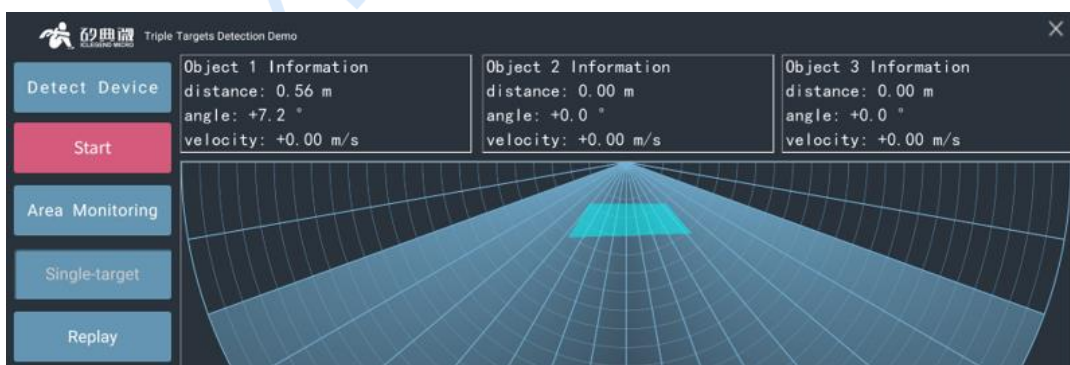
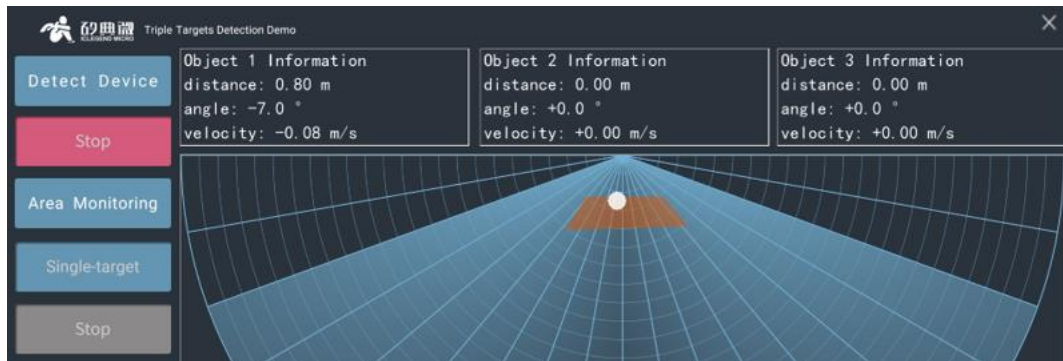
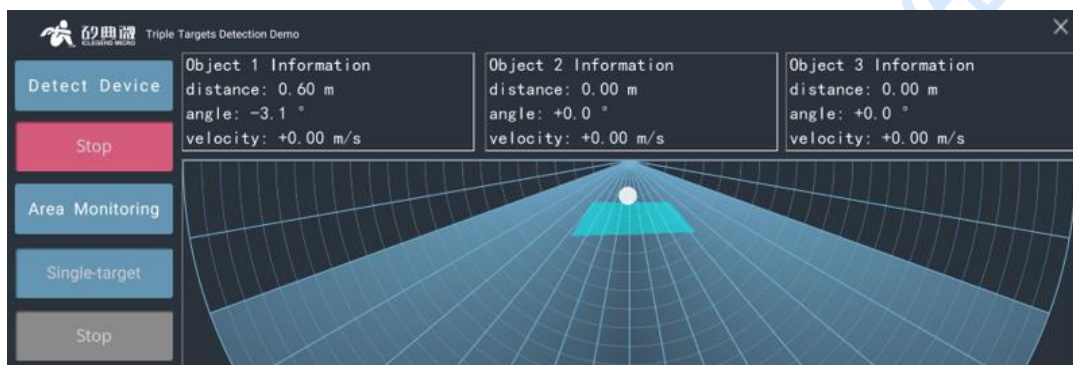

Figure 4-10 Example of a defined monitoring area
Figure 4-11 Target exists in monitoring area
Figure 4-12 No target in monitoring area
Step 3: Click the **Add Monitor Area** button to start defining a monitoring area, click in the radar chart to define the vertexes of the desired monitoring area in clockwise or anti clockwise direction, right-click to finish the process, and the GUI will display the defined monitoring area, an example is shown in Figure 4-10; After setting the monitoring area, if a human target is detected in this area, the background color of this area changes immediately, as shown in Figure 4-11 and Figure 4-12.